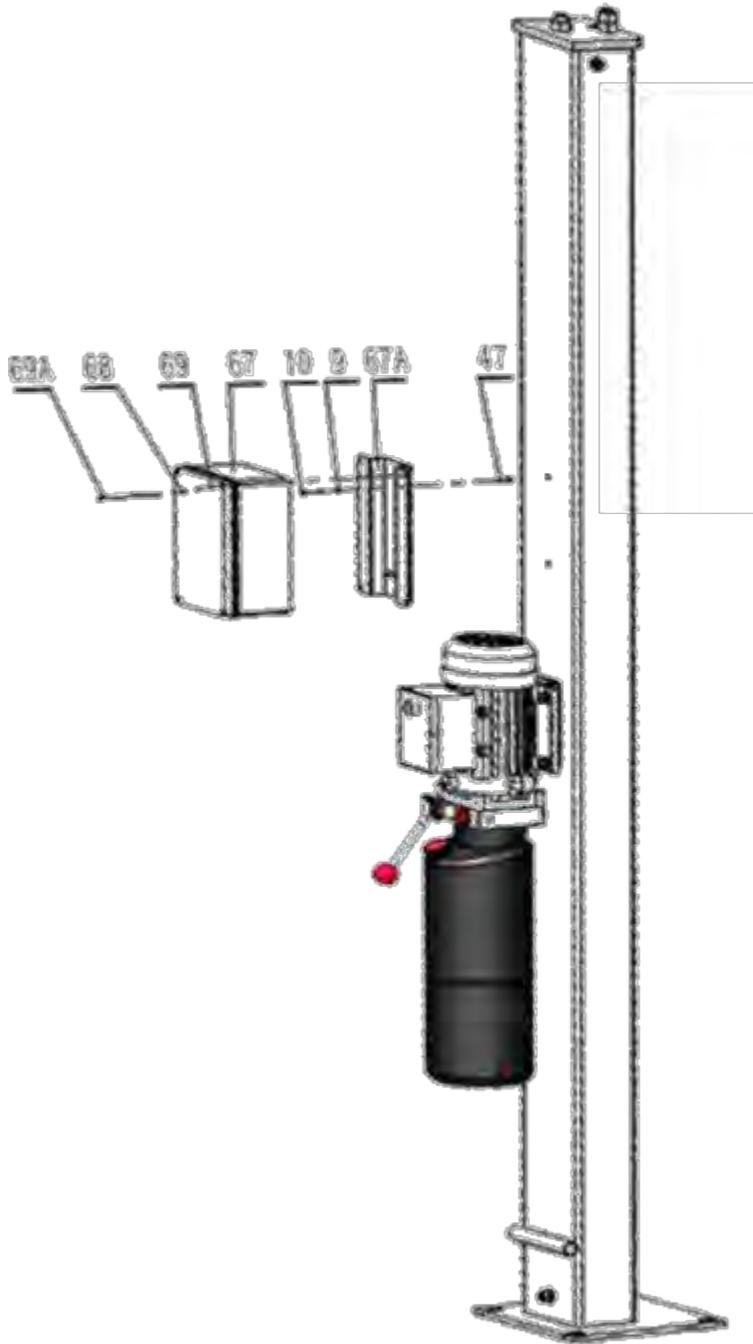

Fig.25
- L. Install the control box(See. Fig.25)